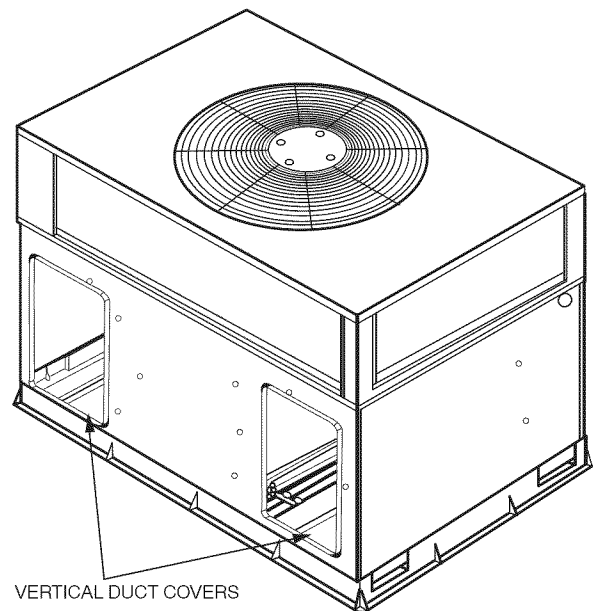

Fig. 13 - Vertical Duct Cover Removed
2. Remove side duct covers to access bottom return and supply knock out covers (See Fig. 13).